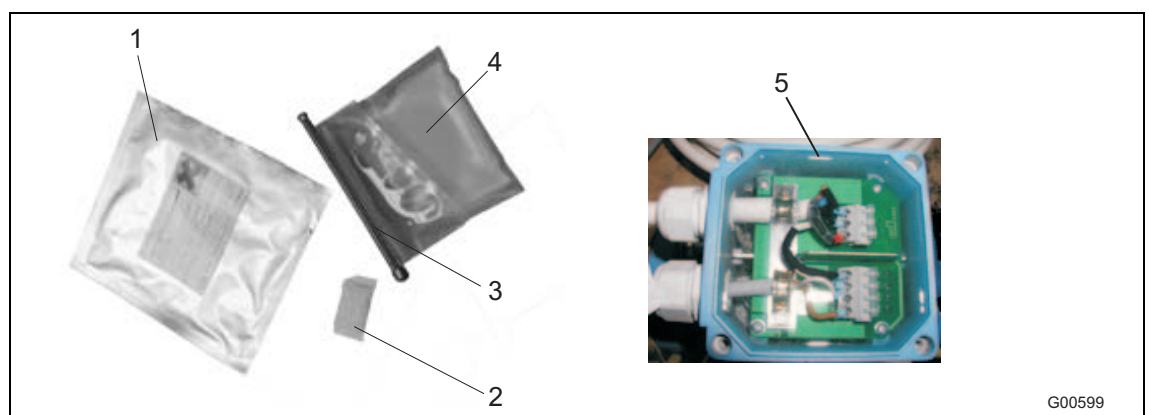

Fig. 27
- Do not overfill the terminal box. Keep the sealing compound away from the O-ring and the seal/groove (see Fig. 27).